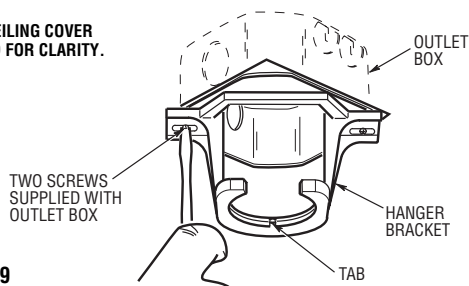
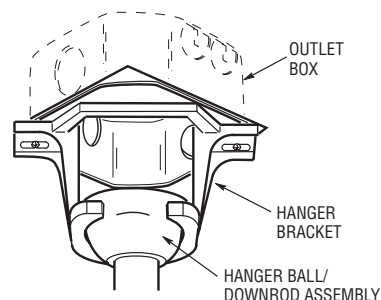

Figure 9
Figure 10
1. Securely attach the hanger bracket to the outlet box using the two screws supplied with the outlet box. (Figure 9.)
2. Carefully lift the fan and seat the hanger ball/downrod assembly on the hanger bracket that was just attached to the outlet box (Figure 9). Be sure the groove in the ball is lined up with tab on the hanger bracket (Figure 10).